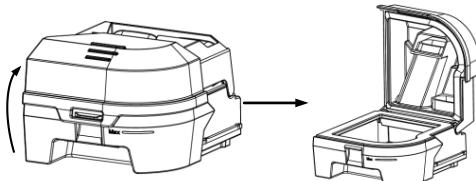

Fig. 16-1
(1) **Opening the Water Chamber:** Open the cap of the water chamber, as shown in Fig. 16-1.